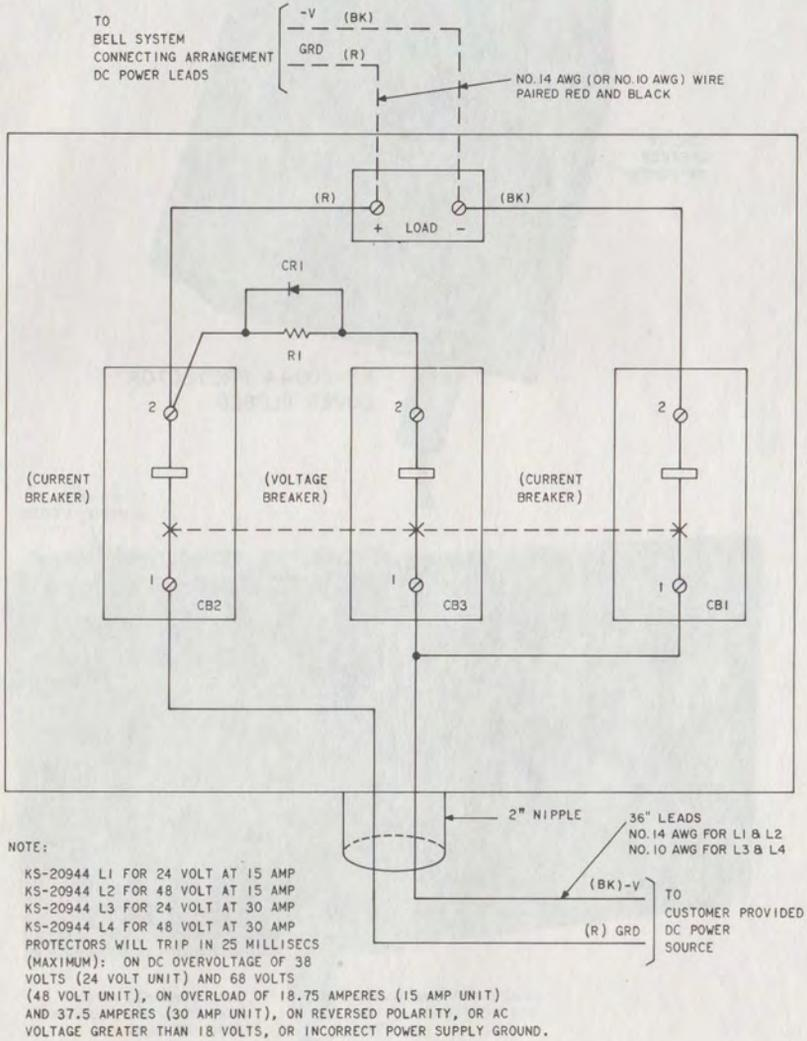

Fig. 13—Schematic—KS-20944 Protector
3.26 Set circuit breaker lever to OFF and connect as shown in Fig. 13 following local wiring instructions. The customer must connect his power supply to the red (GRD) and black (-V) 14-gauge leads extending from the unit.
- 6.06 ♦For connection information using the KS-20944 Protector, refer to Fig. 13.♦